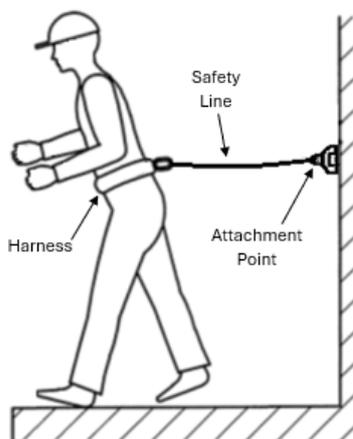

Figure 2: EN363 “Restraint” system example.
- If this anchor device is to be used as part of a “Restraint” or “Fall Arrest” type fall protection system, as described in EN363, a single car may be used to provide an attachment point for the fall arrest safety line, together with a suitable fall arrester and harness. (Figures 2 & 3).